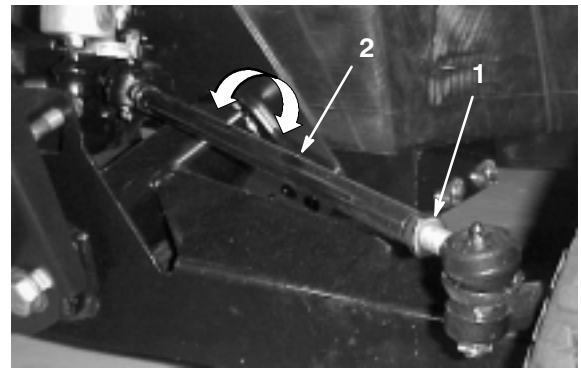

Figure 37
- To adjust, loosen jam nuts at both ends of tie rods (Fig. 37).